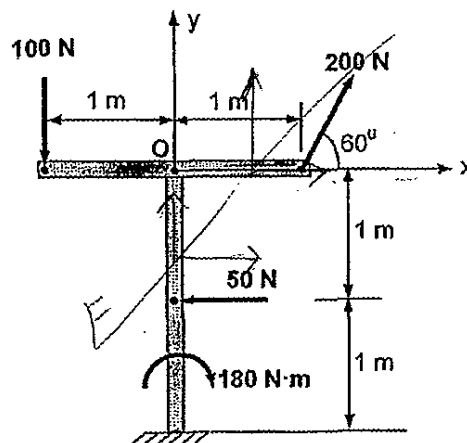

Figure Q1(a)
1. (a) The T-frame shown in Figure Q1(a) is subjected to three forces and one couple. Replace the force-couple system with a single force, and determine the two locations on the T-frame with respect to point O where the line of action of the single force intersects.